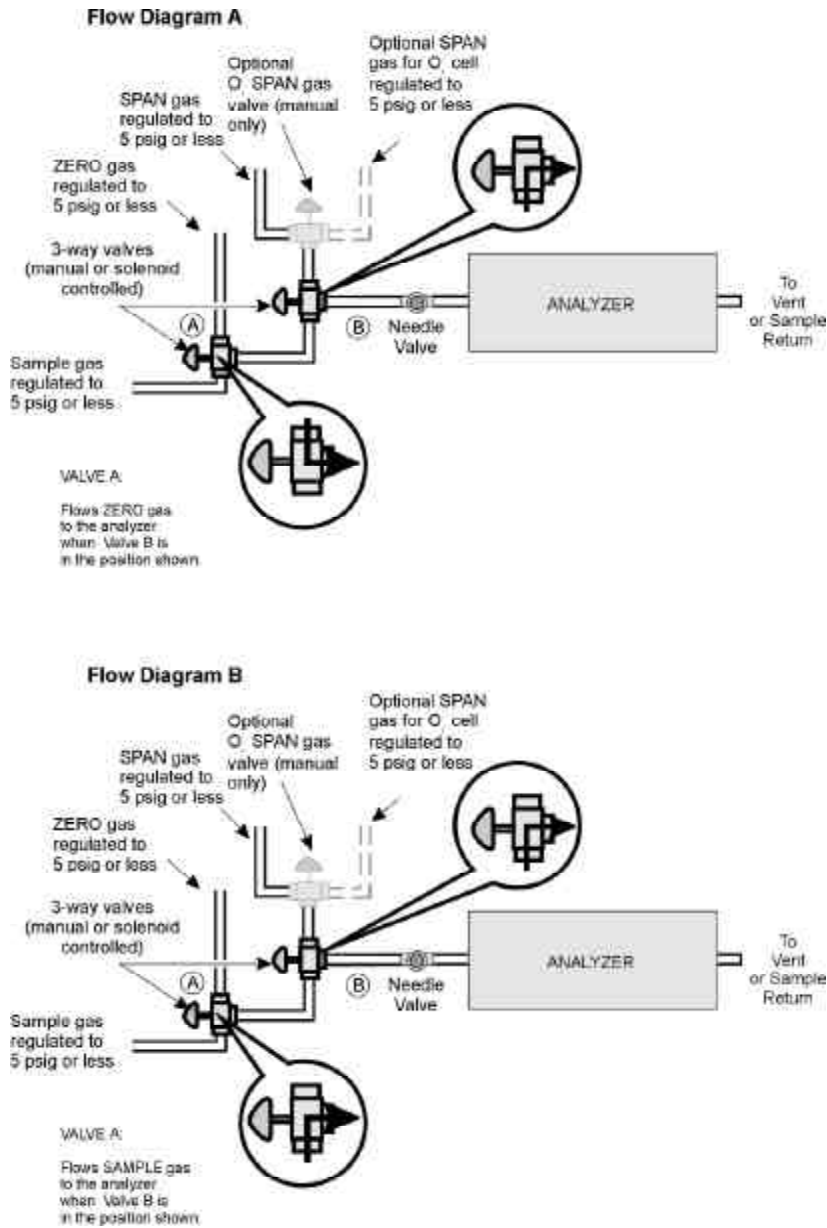

Figure 5-1A & B: Flow Diagram for Manual Calibration
- Referring to the flow diagram in Figure 5-1A, manually switch the 3-way valve from sample gas to ZERO gas. Make sure that valve B is set to flow gas in the position shown in the inset.